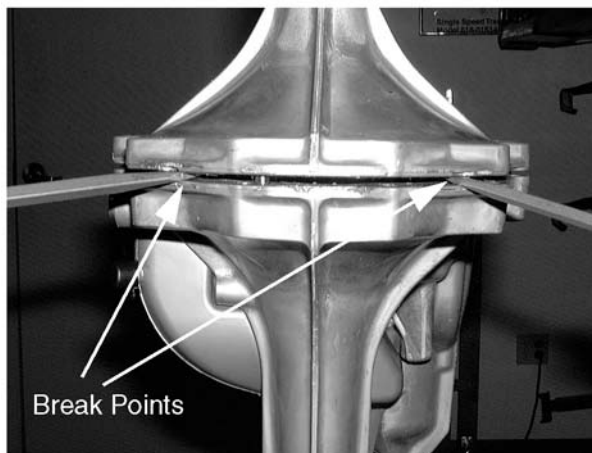

Figure 6-57.
15. Separate the housings from one another using the rear break points and a flat blade screwdriver. See Figure 6-57.